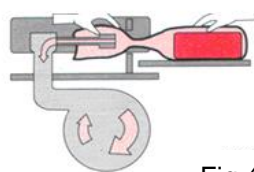

Fig.4
-Place the bag containing the product on the special tray of the machine, and put the open part of the bag on the nozzle (Fig. 4).